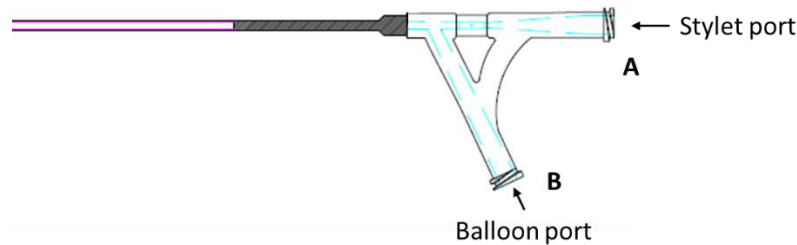

Figure 1. Stylet and balloon port location
- Luer lock connector to connect at Y-manifold (Figure 1 – Balloon port).
4. Connect the balloon port (printed with the letter "B", see Figure 1) to the connecting tube of the Inflation Device.
10. Remove the Airway Stylet (printed with the letter “A”, see Figure 1).